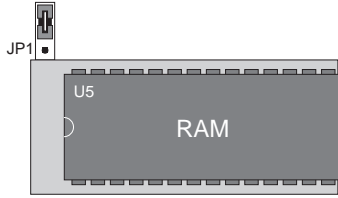

Figure 2-11. Position of 28-Pin Chip in 32-Pin Socket
7. If you are using a 28-pin RAM chip, seat the chip in the RAM socket as shown in Figure 2-11.
6. If you are using a 28-pin RAM chip, seat the chip in the RAM socket as shown in Figure 2-11.